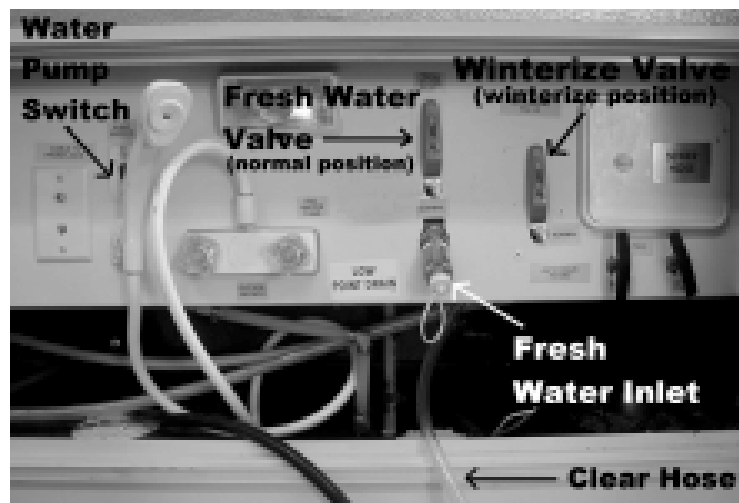

Fig. 4-15
2. Open the three low point drain valves located in the utility center. When water stops flowing out of them, close the valves. (Fig. 4-15)
4. Turn the “Winterizing Valve” to the “Sanitize/Winterize Intake” position. (Fig. 4-15)
8. Put the clear antifreeze hose into a jug of **NON-TOXIC** RV antifreeze. You will need more than one gallon of antifreeze. (Fig. 4-15)
9. Turn the “Water Pump Switch” to the “ON” position and open each faucet until the antifreeze flows through. Do not forget to run the antifreeze through toilet. (Fig. 4-15)